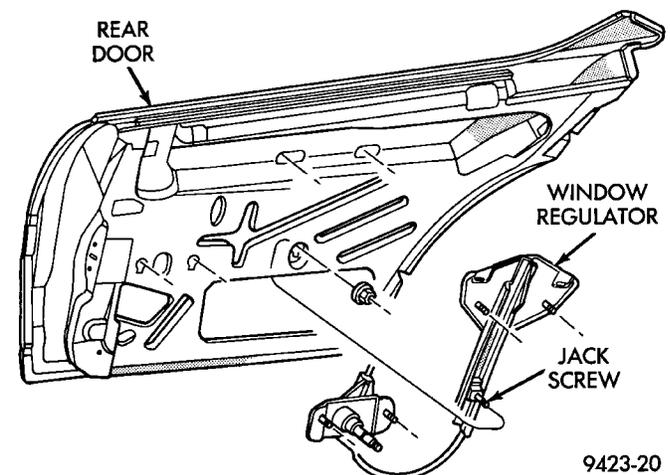

Fig. 48 Rear Door Window Regulator
- (1) Remove door trim panel and watershield.
- (2) Remove door glass.
- (3) Loosen bolts holding window regulator crank/motor to door panel.
- (4) Disengage bolt heads from keyhole slots in door panel.
- (5) Loosen bolts holding window regulator lift bar to door panel.
- (6) Disengage bolt heads from keyhole slots in door panel (Fig. 48).
- (7) Remove window regulator from door through access hole in inner panel.